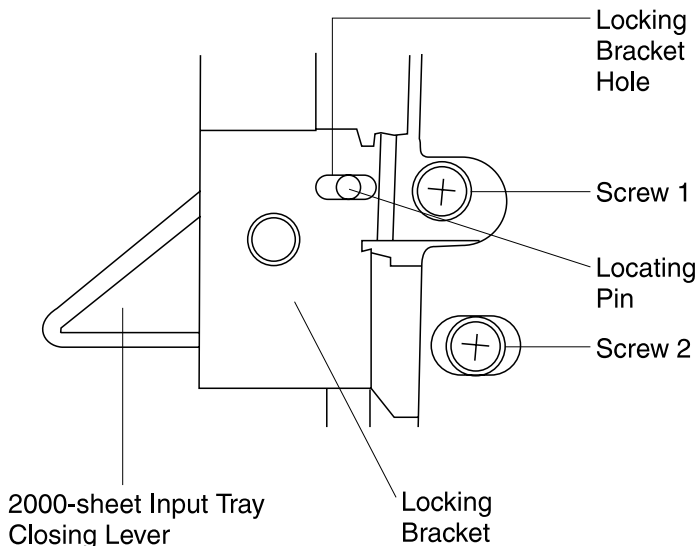

Figure 4-5 Tray 4 Position Adjustment
- 4 Loosen both screws that support the paper tray locking bracket on the right side of the 2000-sheet Input Tray (see figure 4-5).
- 5 Locate the bracket hole and pin at the middle (right side) (see figure 4-5).